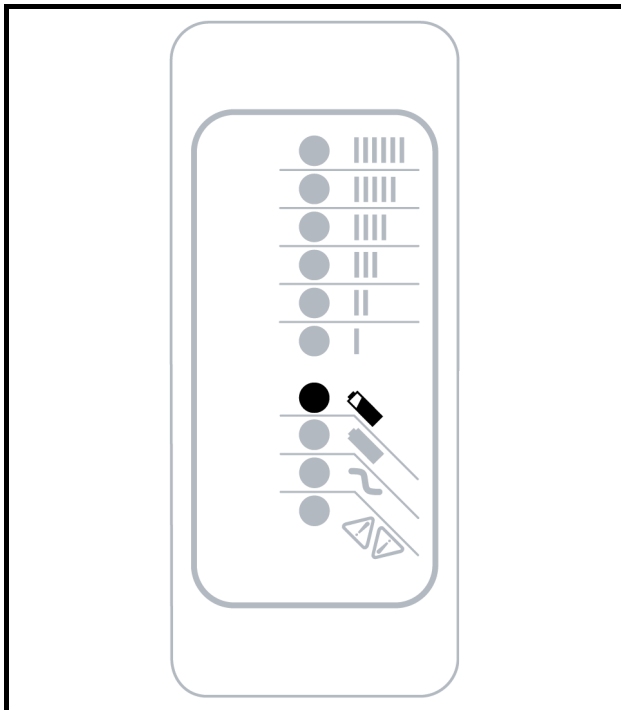

Figure 10-2 80% LED Flashes in Algorithm Display Mode
4. After the start-up self-test, the 80% LED will display a series of flashes that represent the algorithm number (**Figure 10-2, Page 10-3**). [Example: Algorithm number 125 is represented as “one flash”, pause, “two flashes”, pause, “five flashes”.] The charger will not repeat this series of flashes. To see the number again, repeat steps 1 and 3 with a 20 second pause between them.